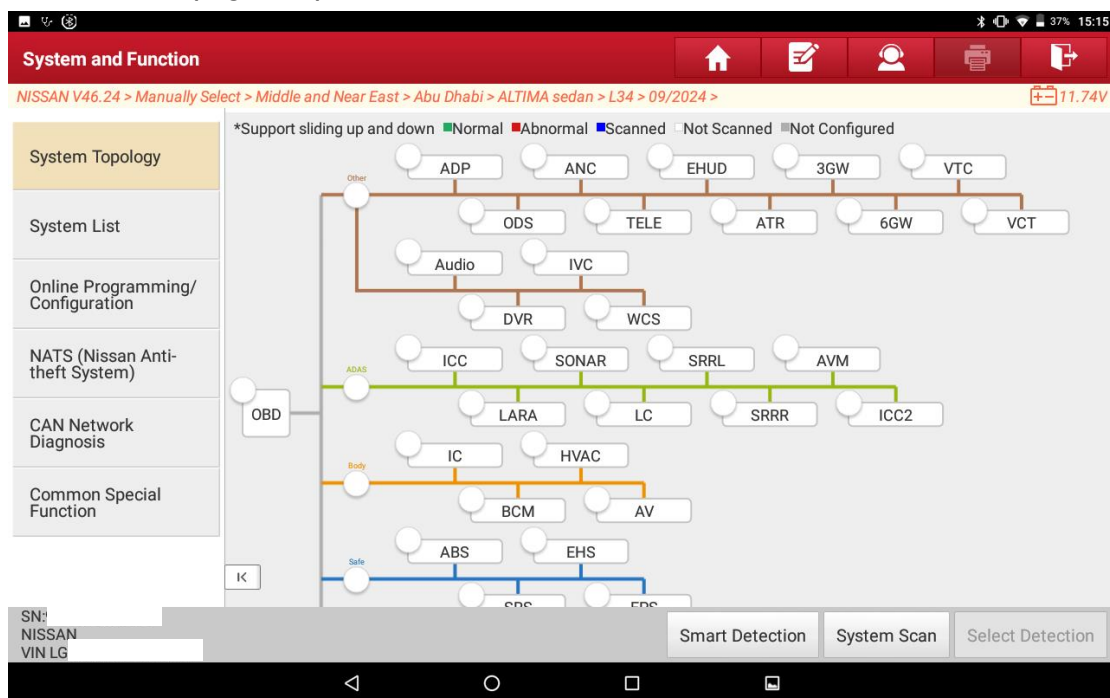

Figure 5
- Click [Manually Select], and choose [Middle and Near East] > [Abu Dhabi] > [ALTIMA sedan] > [L34] > [09/2024] to enter the vehicle model system interface (Figure 5).